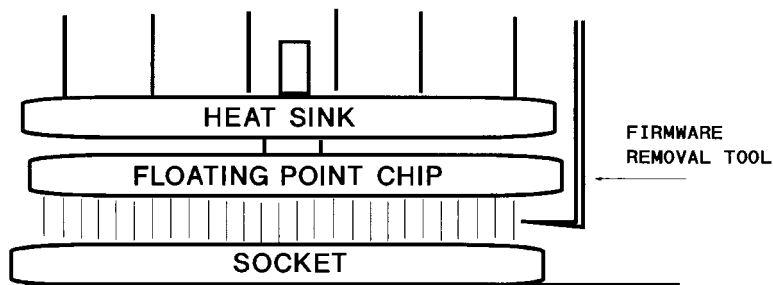

Figure 8-55. Floating Point Chip Removal
2. See Figure 8-55. Insert the firmware removal tool between the pins at one corner of the floating point chip.